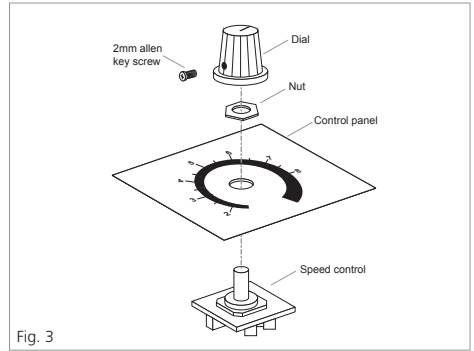

Fig. 3
3. Loosen the allen screw (2mm) securing the control dial and remove dial. Unscrew the nut securing the controller to electrical panel and remove the speed controller circuit board. Retain all parts for future use. (See Fig. 3)